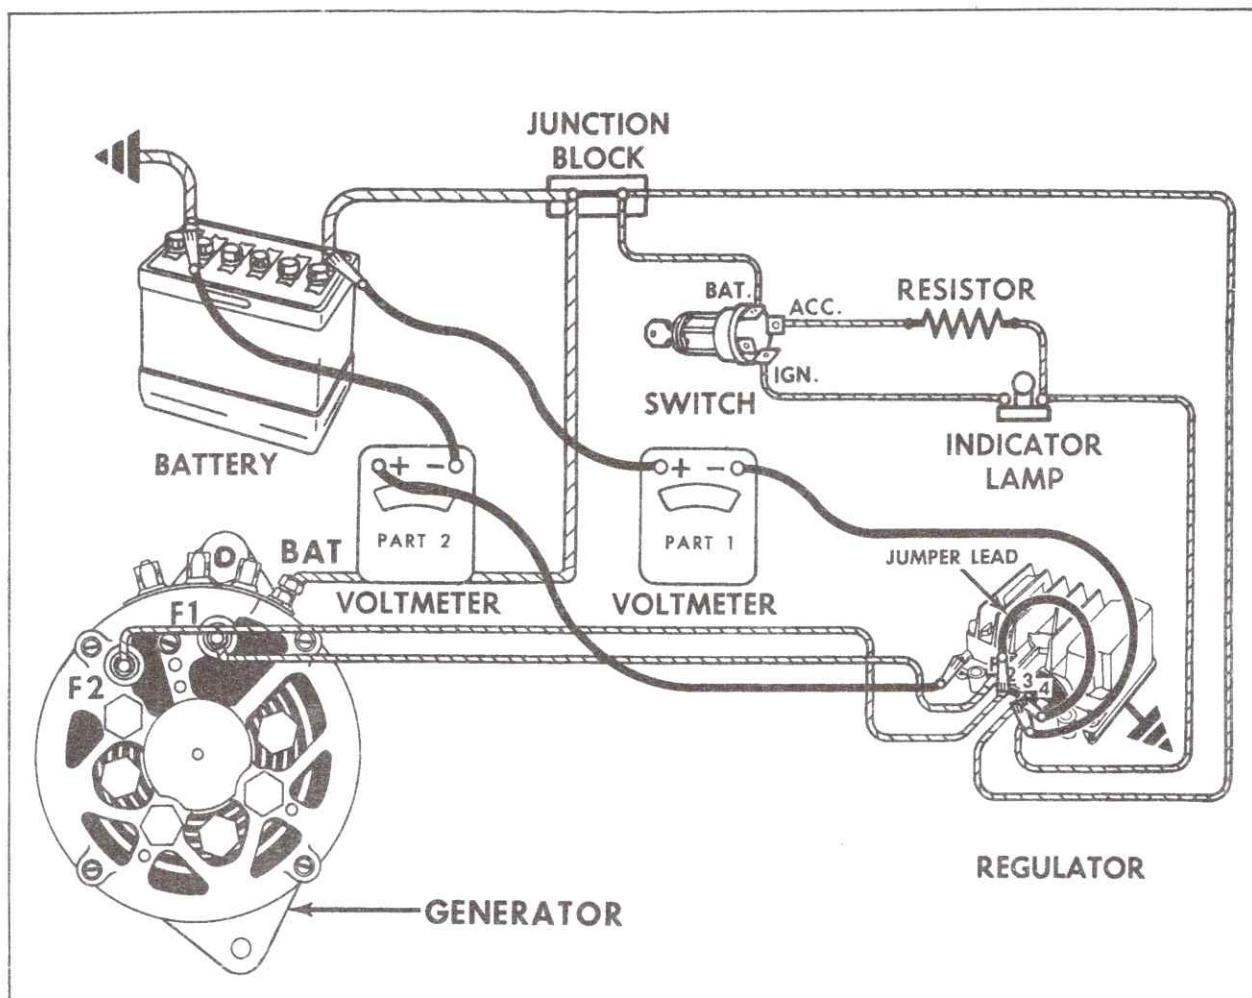

Fig. 6-56 Testing Wiring For Hi Resistance
9. Connect a jumper between the No. 3 and No. 2 terminals, Fig. 6-56. Slide prods into the connector body to make connections. Do not leave jumper lead in this position longer than 5 minutes.
10. Connect voltmeter positive lead to battery positive post and voltmeter negative lead to regulator No. 3 terminal. Turn the ignition switch "on", Fig. 6-56. Read the voltage drop.
battery negative post with jumper lead in position. See Part 2, Fig. 6-56. Record the voltage drop.